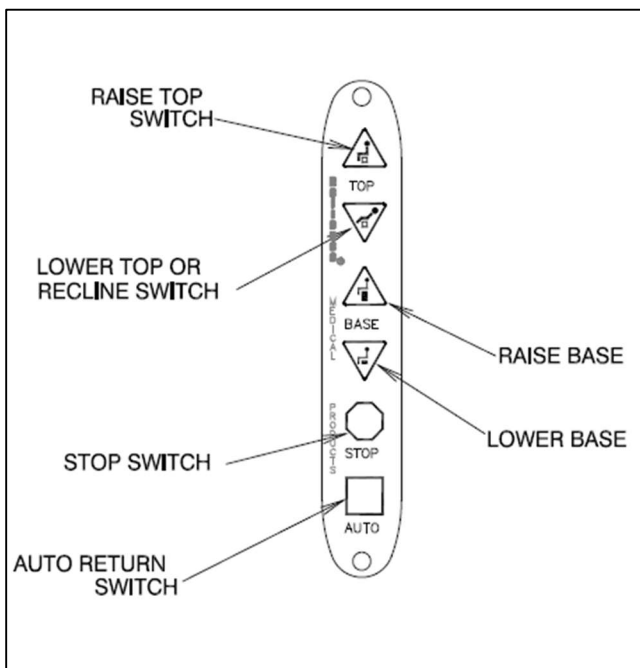

FIGURE 2
3.1.1. Depressing the STOP switch on either side of the chair back will STOP ALL movement of the chair. The STOP switch is shaped like a stop sign and may be either RED or ORANGE in color. It is located above the text "STOP". (Refer to Figure 2). The STOP switch is also used to program the chair. See Section 4 for programming instructions.
- The chair lift may be raised or lowered by Membrane Switches on either side of the chair back (Figure 2).
- The chair top may be raised or reclined by Membrane Switches on either side of the chair back (Figure 2).
The chair has a built-in Safety/Shutdown feature. This feature causes the chair to shutdown or become inoperable. This feature prevents unauthorized use of the chair (See Figure 2).
4.2. Individual Programming of the RAISE TOP, RECLINE TOP, RAISE BASE, and LOWER BASE switch located on the Chair Back or Footswitch (See Figures 2 & 3)